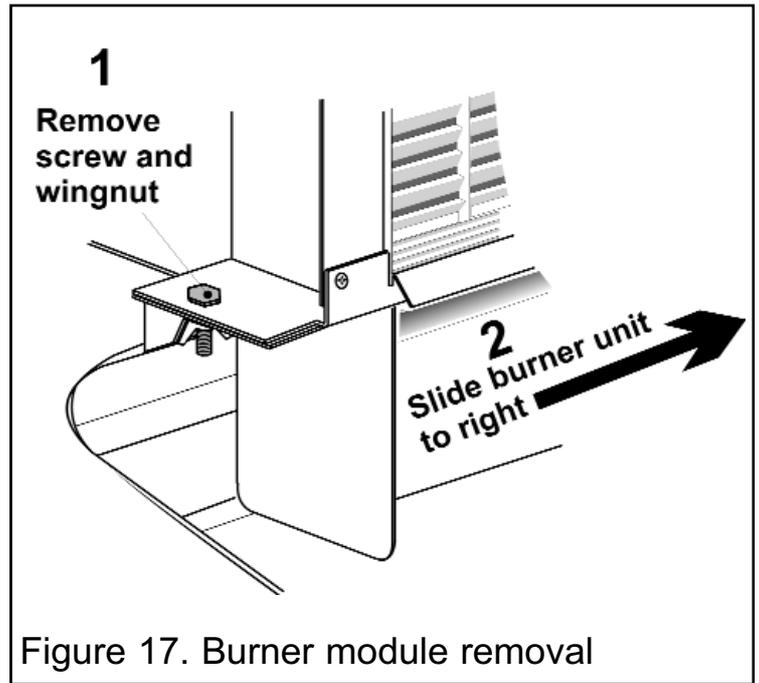

Figure 17. Burner module removal
11.6.4. Detach the left end of the burner module from the radiant box by removing one screw and a wingnut (See figure 17).
the radiant box (See figure 17).